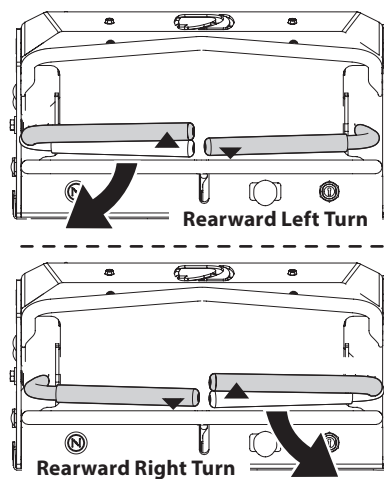

Figure 14
1. To turn to the left while traveling in reverse, move the left drive control lever forward of the right drive control lever (Figure 14).
2. To turn to the right while traveling in reverse, move the right drive control lever forward of the left drive control lever (Figure 14).